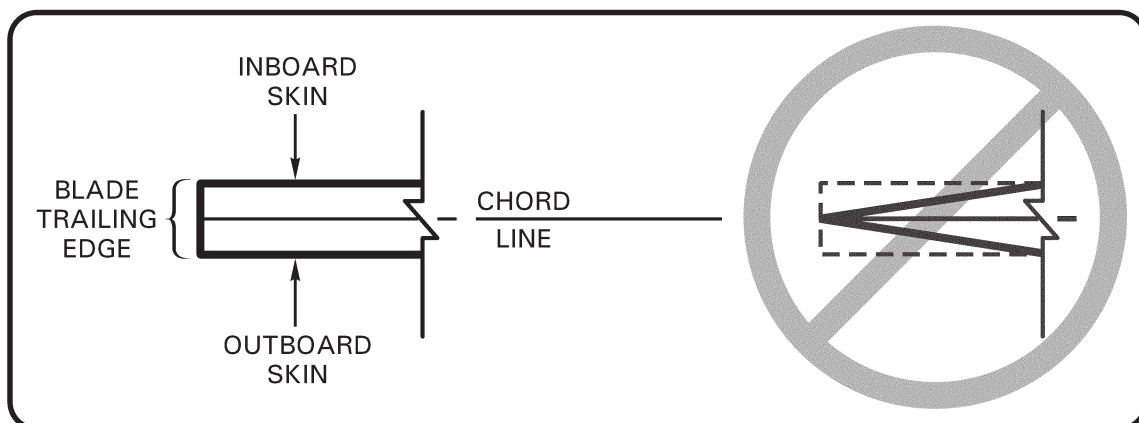

FIGURE 64-5 REPAIRS TO BLADE TRAILING EDGE
1. Refer to Figure 64-5. Verify damage (or repair) does not exceed following limits:
1. Refer to Figure 64-5. Trailing edge must remain square with skins; skin must not taper.